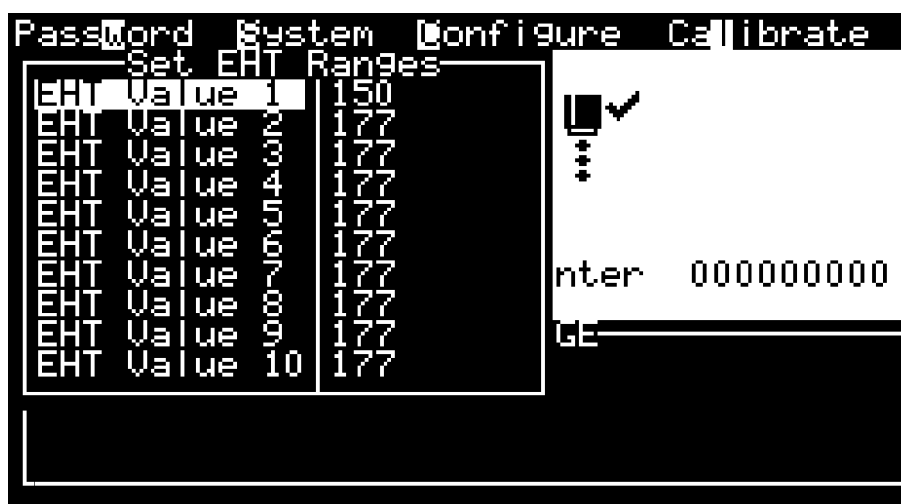

Fig 11.83 Set EHT ranges
- 141 The display will be as shown in Fig 11.83.